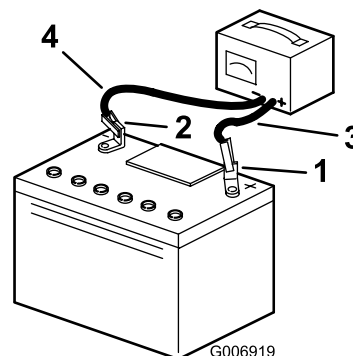

Figure 29
5. Disconnect the charger leads from the battery posts (Figure 29).